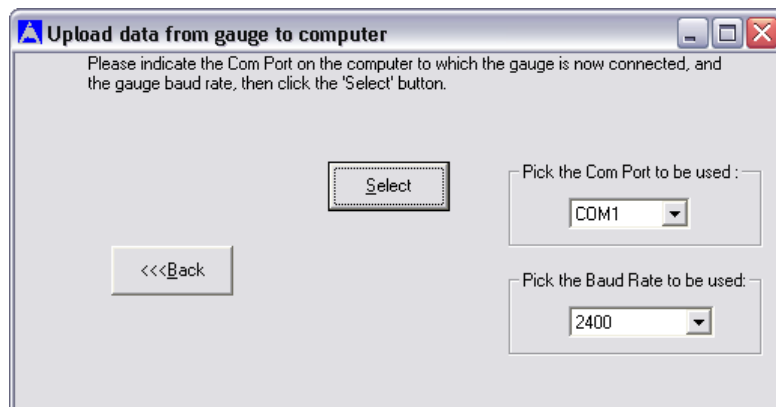

Figure 3–6. Selecting the Com Port and Baud Rate
11. After the user clicks the **<Select>** button in Figure 3–6, the software displays the **Upload data from gauge to computer** screen shown in Figure 3–7. Ensure that the gauge is set to the proper baud rate, is in *Remote Control* mode, and is properly connected to the computer using an RS-232 cable. Click the **<Get Constants>** button to continue.